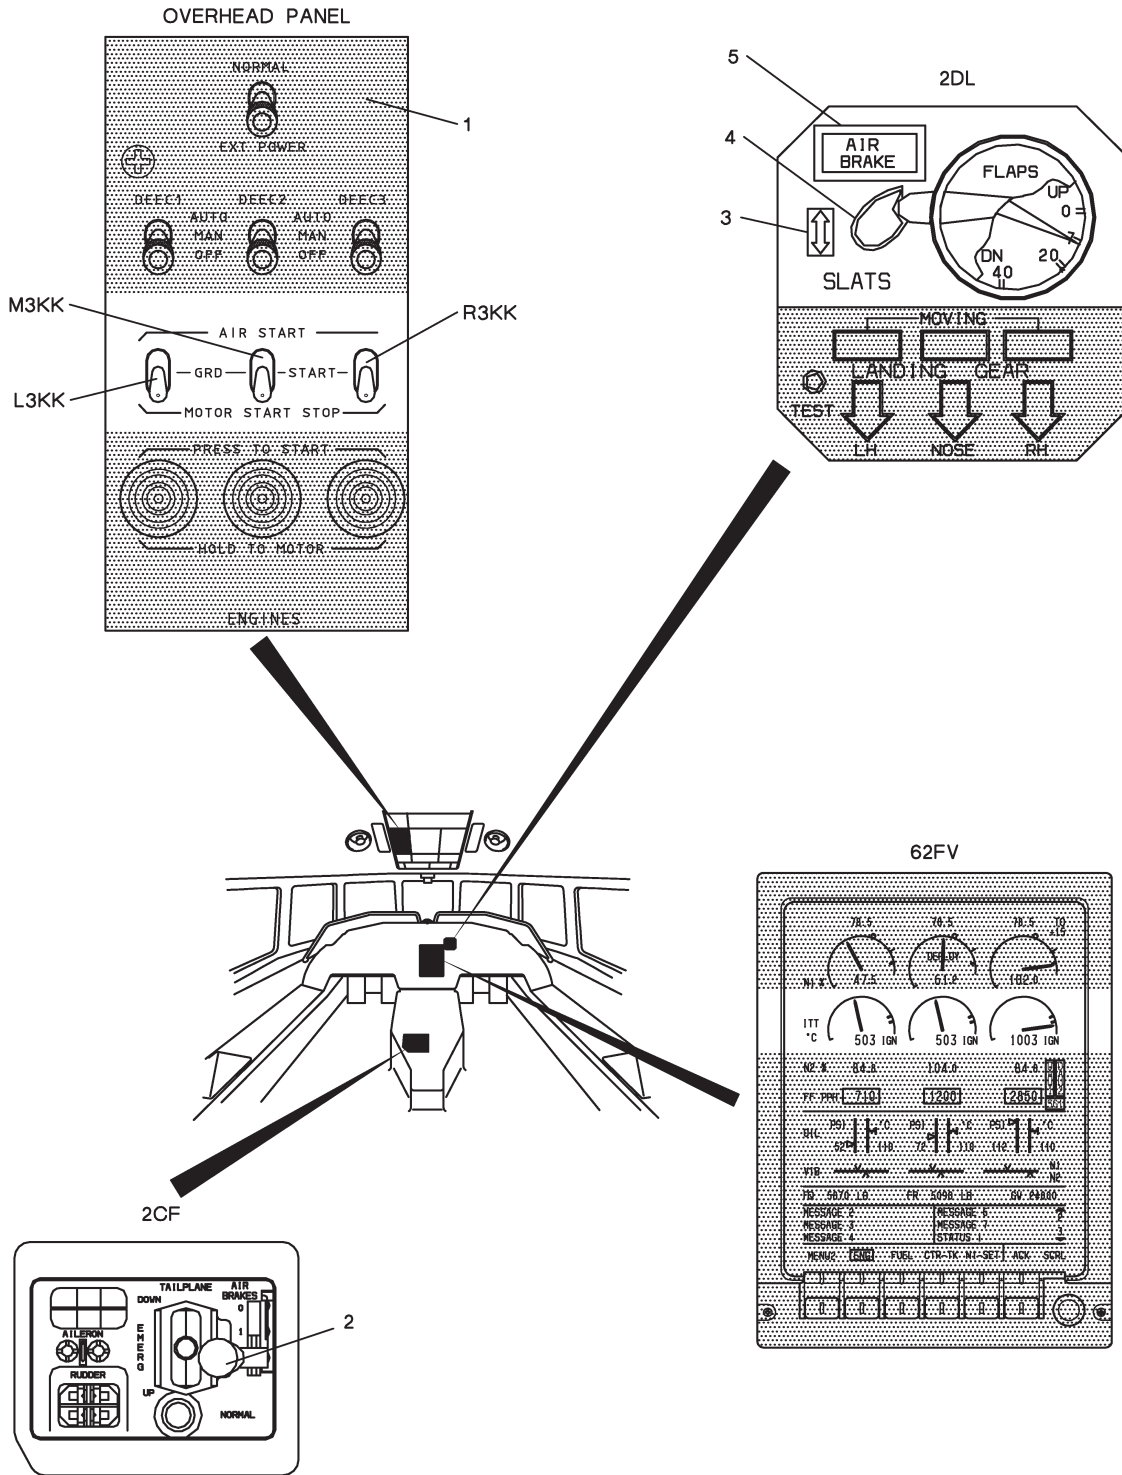

FIGURE 1: FUNCTIONAL TEST OF SLATS
- A. Refer to Figure 1: Functional Test of Slats
- (1) On slats / flaps control box (2CG), slats / flaps control lever is set to "CLEAN".
- (2) On overhead panel (1), engine 1, 2, and 3 start selector switches (L3KK, M3KK, and R3KK) are set to "GRD START".
- (3) On airbrake / tailplane / trims control box (2CF), airbrake control lever is set to "0".
- (4) "EMERG SLATS" switch is set to normal position (guard lowered).
- (1) Slowly move the pointer support (Refer to Dassault OEM procedure 27-801 c Figure 1) to increase the LH AoA sensor angle (L11CM).
- (2) Make sure that when angle $14^\circ \pm 30'$ is reached:
- (3) On configuration panel (2DL), once the outboard slats are fully extended, make sure that:
- (4) Select an IAS > 265 kt on the pilot air pressure systems.
- (5) Select an IAS < 265 kt on the pilot air pressure system.
- (1) Maintain LH AoA to an angle $14^{\circ} \pm 30'$. Make sure that outboard slats remain extended.
- (2) Slowly move the pointer support (Refer to Dassault OEM procedure 27-801 c Figure 1) to increase the RH AoA sensor (R11CM) angle to an angle $17^{\circ} \pm 30'$ and make sure that: